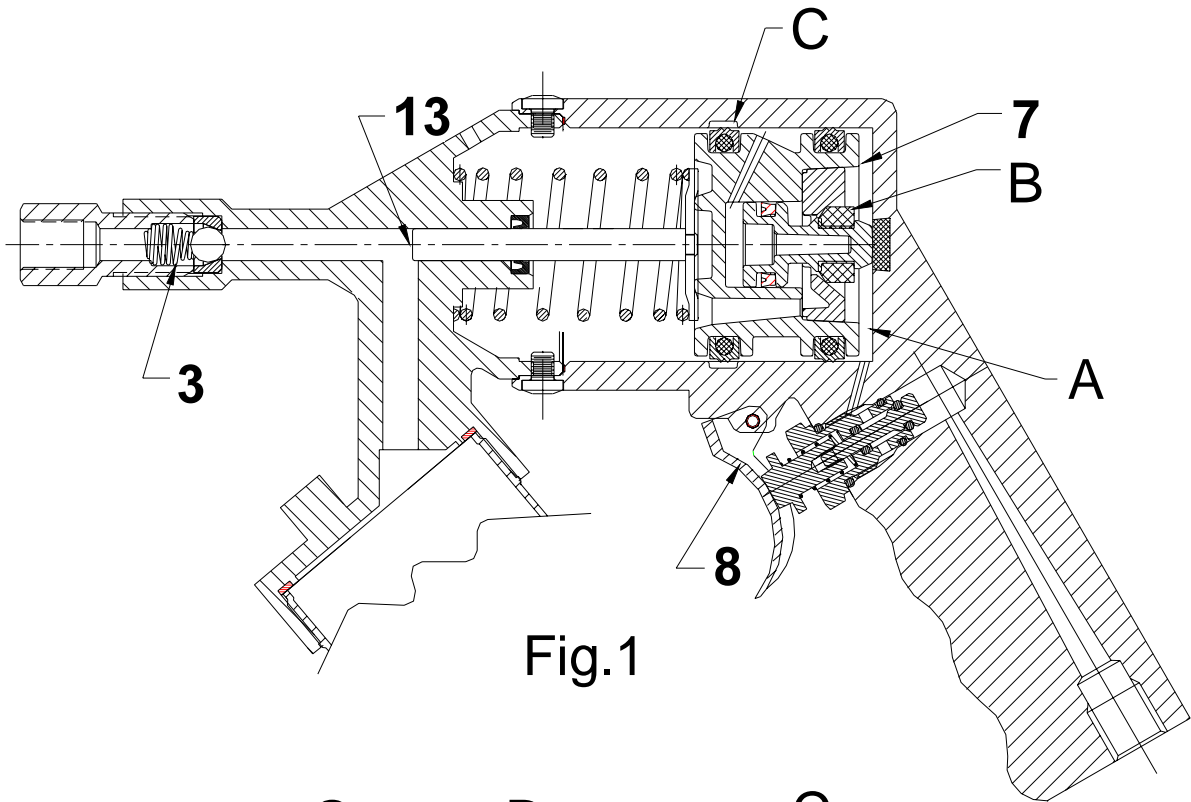
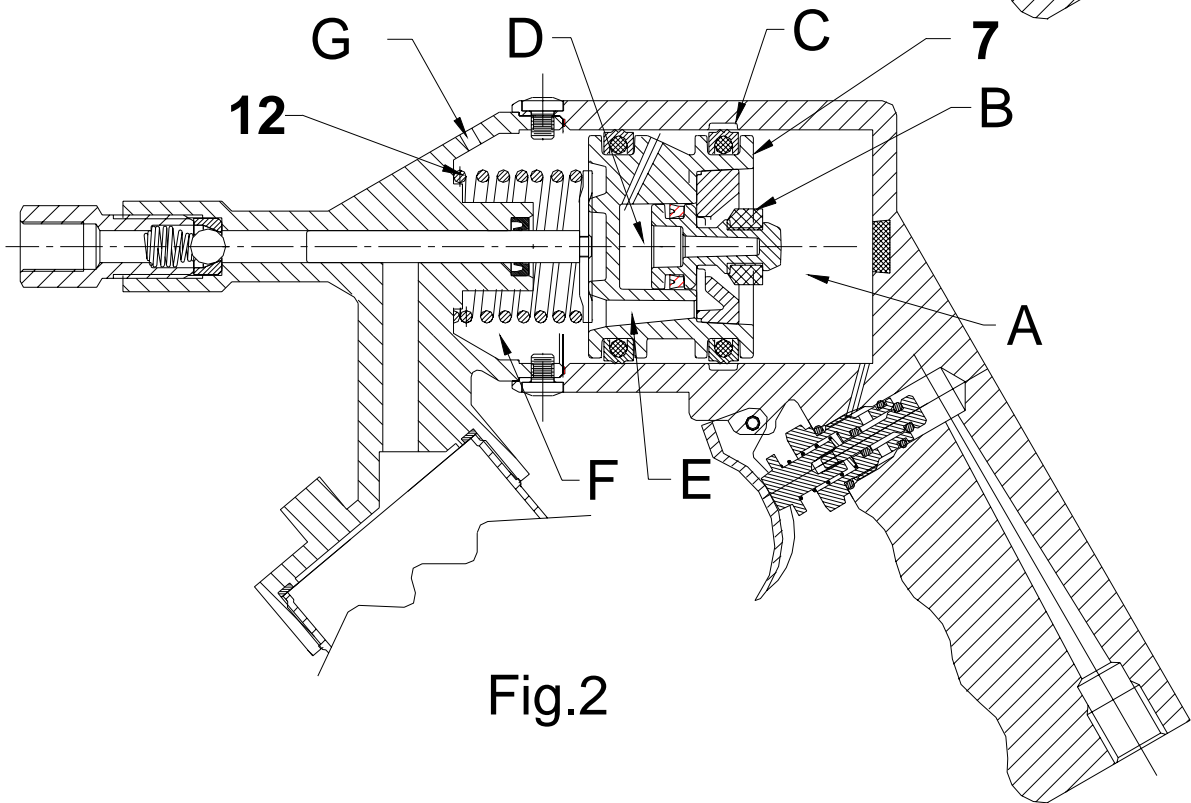

Fig.1
Fig.2
The gun operates when the trigger (8) is depressed. Air is admitted to Chamber A (see Fig 1.) and pushes the piston (7) with the plunger (13) to the left. Vent valve B is closed. The grease, under pressure from plunger (13), opens the check valve (3) and delivers one shot of the lubricant.
When the piston (7) reaches the bypass groove C (see Fig. 2) air is admitted into chamber D and opens the vent valve B. The air pressure from chamber A is vented through valve B and vent holes E to the chamber F which communicates with the atmosphere through the hole G. The air pressure is equalized on both sides of the piston (7) and the force of the spring (12) will return the piston to the initial position, recharging the gun (see Fig 1). Vent valve B will be closed and air from chamber D is vented through the bypass groove C to the atmosphere. The cycle repeats in the same manner while the trigger is depressed.